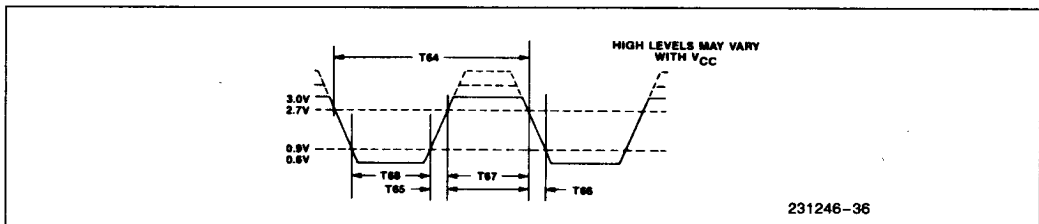

Figure 35. $\overline{\text{RxC}}$ Input Voltage Levels for Timing Measurements *
15. 82C501 compatible levels, see Figure 35